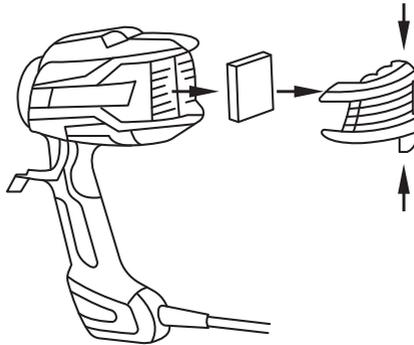

Fig.9
- Change the air filter if it is soiled (Fig. 9).